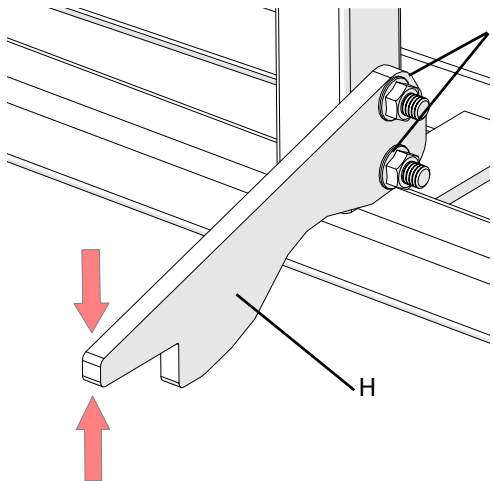

Figure 3
- The boom stop (Item H, Figure 3) can be adjusted to line up with the outer wing when folded by loosening the nuts (Item I, Figure 3), and moving the stop up or down.